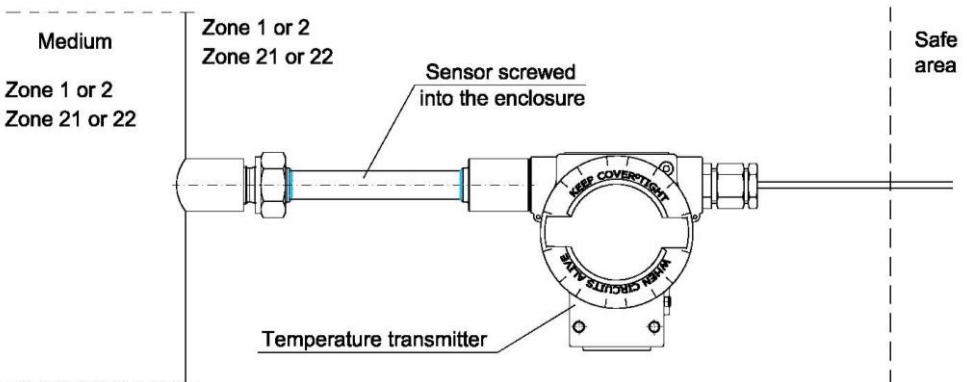

Fig. 2. LI-24ALW temperature transmitter with a sensor screwed into the enclosure.
If a sensor screwed into the enclosure is installed, a flameproof transmitter plus the sensor may be installed in zones 1 (21) or 2 (22) (Fig.2).